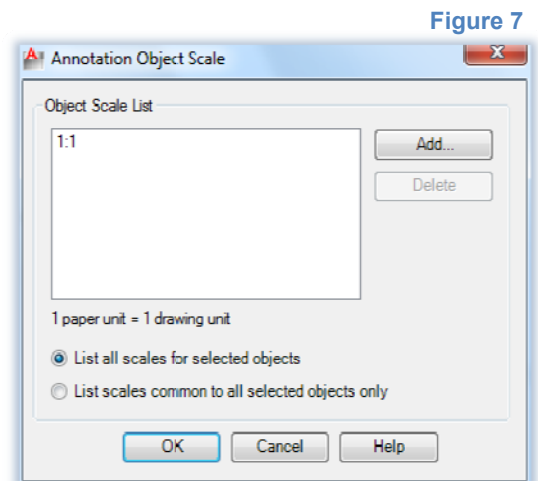

Figure 7
- An annotative object can support several annotation scales for views at different scales. You can add or delete scales from the Object scale list assigned to the selected annotative object in the *Annotation Object Scale* (Figure 7)